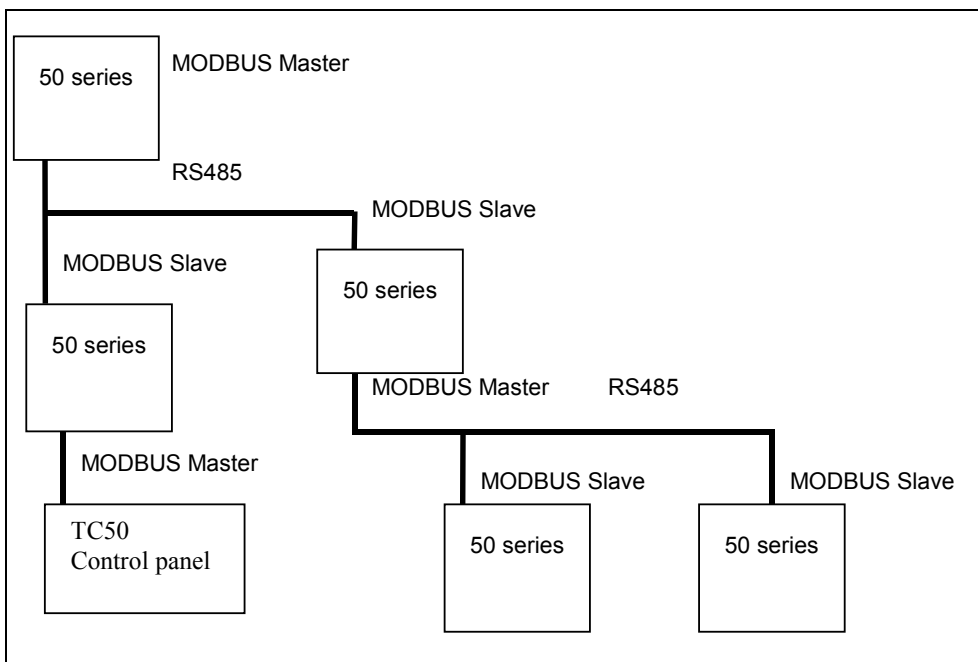

Figure 7-5 : Network connection between Central units
- **Network connection between central units (see Figure 7-5)**